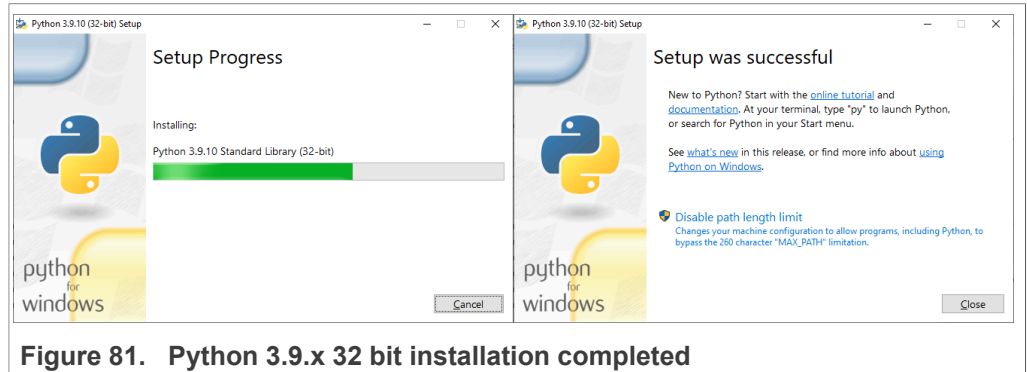

Figure 81. Python 3.9.x 32 bit installation completed
- 3. Wait a few seconds until the installation is completed as indicated in Figure 81